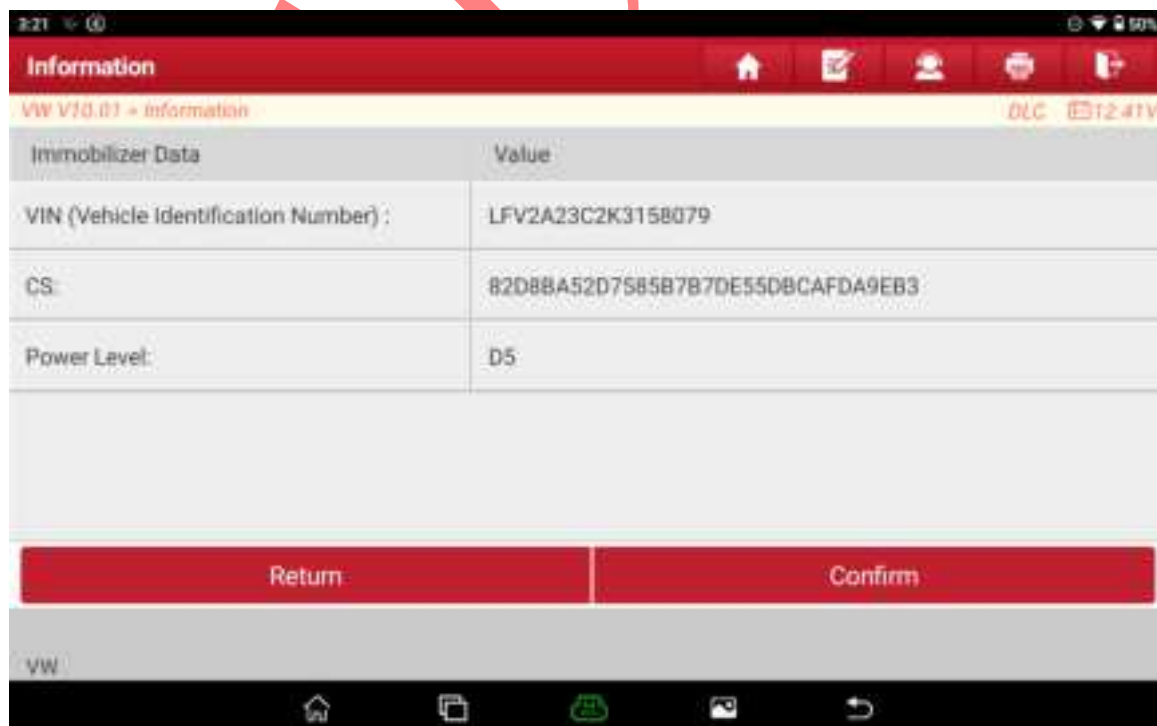

Figure 22
21. The parsing is successful. Record the CS code of the car and select Confirm, as shown in Figure 22.